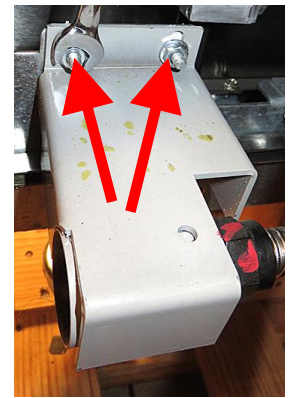

Figure 49
47. Use a 7/16" wrench to remove the two (2) nuts securing the female pick-up tube bracket (see Figure 49).